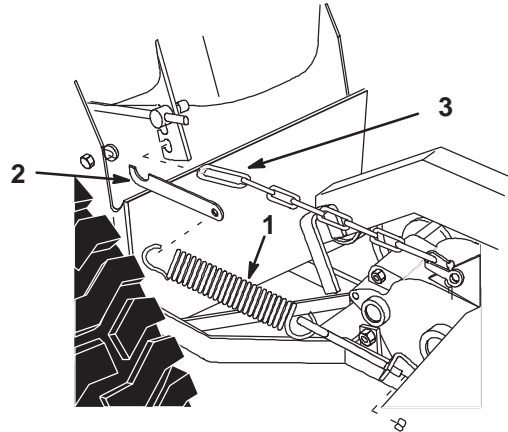

Figure 21
6. Unhook lift assist spring and spring catch from tractor (Fig. 21).
8. Unhook long link of lift chain from lift arm (Fig. 21).